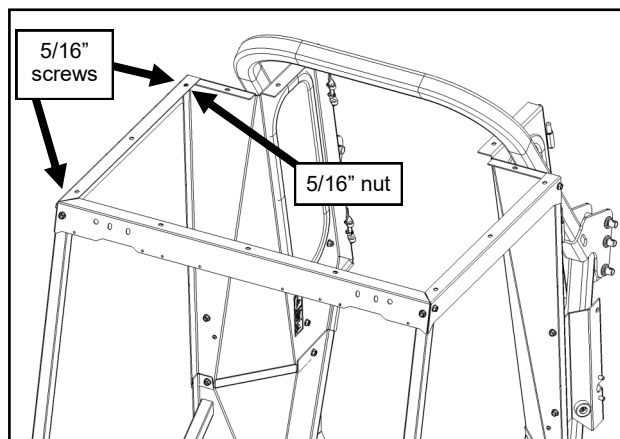

Fig. 11.2 (Install Right Door Header)
- 11.2 Repeat step 11.1 with the right door header. See Figure 11.2.